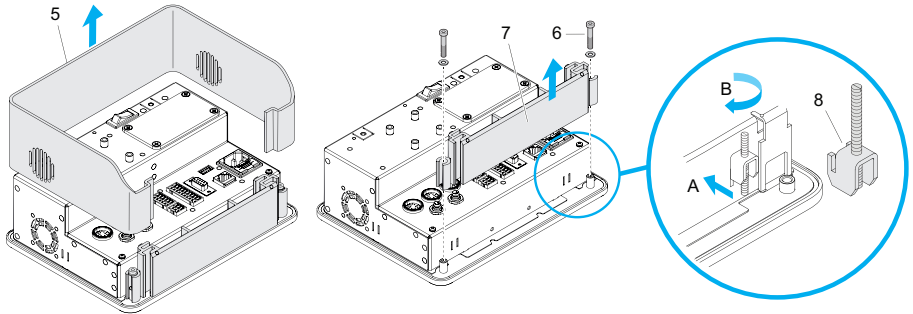

Fig. 173
- ▶ Remove the frame (5).
- ▶ Unscrew the two M5 screws (6) (Fig. 173).
- ▶ Remove the frame (7).
- ▶ Insert the six clamps (8) in the slots on the side (A).
- ▶ Turn the set screw down (B) and secure the dosing control unit.